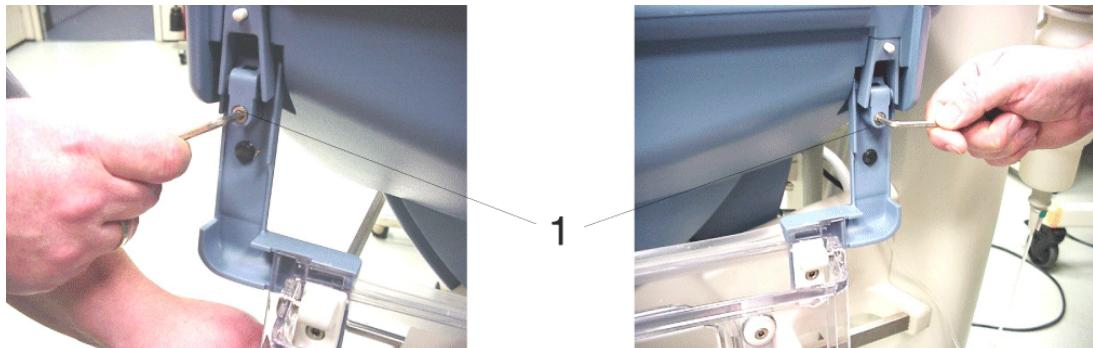

Fig. 18 Left and right side view of the large door
2. Hold large door and loosen screws (1) until retaining clips are slackened such that door can be disengaged from holders, see Fig. 18.